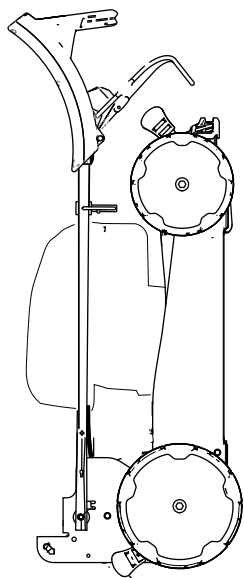

Figure 21
6. Lift the front of the machine by the handle and move it into a storage space (Figure 21).